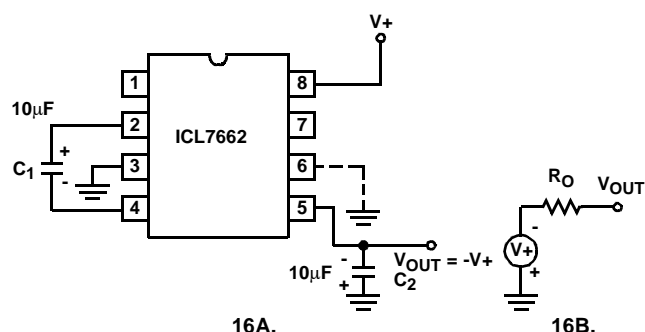

FIGURE 16. SIMPLE NEGATIVE CONVERTER AND ITS OUTPUT EQUIVALENT
The majority of applications will undoubtedly utilize the ICL7662 for generation of negative supply voltages. Figure 16 shows typical connections to provide a negative supply where a positive supply of +4.5V to 20.0V is available. Keep in mind that pin 6 (LV) is tied to the supply negative (GND) for supply voltages below 10V.
ESR also affects the ripple voltage seen at the output. The total ripple is determined by 2V, A and B, as shown in Figure 16. Segment A is the voltage drop across the ESR of C_2 at the instant it goes from being charged by C_1 (current flowing into C_2) to being discharged through the load (current flowing out of C_2). The magnitude of this current change is $2 \times I_{OUT}$, hence the total drop is $2 \times I_{OUT} \times ESR_{C2}V$. Segment B is the voltage change across C_2 during time t_2 , the half of the cycle when C_2 supplies current the load. The drop at B is $I_{OUT} \times t_2 / C_2 V$. The peak-to-peak ripple voltage is the sum of these voltage drops:
Figure 23 combines the functions shown in Figure 16 and Figure 22 to provide negative voltage conversion and positive voltage doubling simultaneously. This approach would be, for example, suitable for generating +9V and -5V from an existing +5V supply. In this instance capacitors C_1 and C_3 perform the pump and reservoir functions respectively for the generation of the negative voltage, while capacitors C_2 and C_4 are pump and reservoir respectively for the doubled positive voltage. There is a penalty in this configuration which combines both functions, however, in that the source impedances of the generated supplies will be somewhat higher due to the finite impedance of the common charge pump driver at pin 2 of the device.